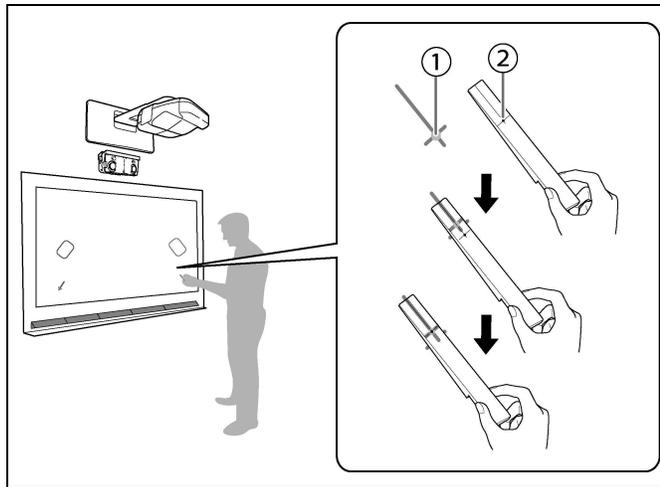

Figure 40
- Match the positions so that the crosses (1) overlap with the points (2) on the marker positions noted on the projected image. (See Figure 40)
- Move the marker over the projected cross until the lines of the cross align with the lines on the marker. (See Figure 40)